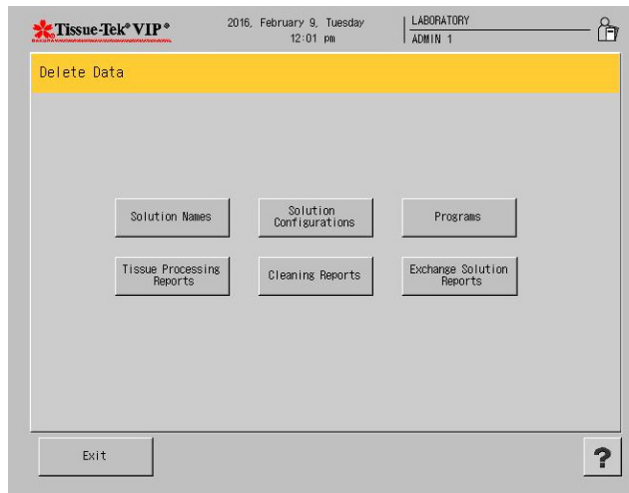

Figure 3-MMM
- The Delete Data screen displays (Figure 3-MMM).